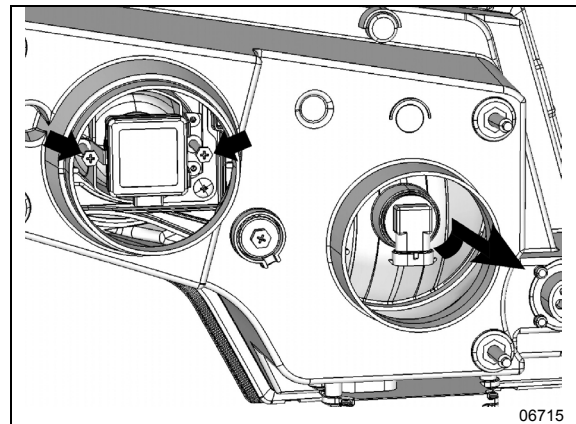

FIGURE 78: HEADLAMPS ASSEMBLY REAR VIEW
5. HALOGEN: turn the bulb base counterclockwise. XENON: Unscrew the Phillips head screws indicated by arrows, pull the retainer and bulb out (FIGURE 78).